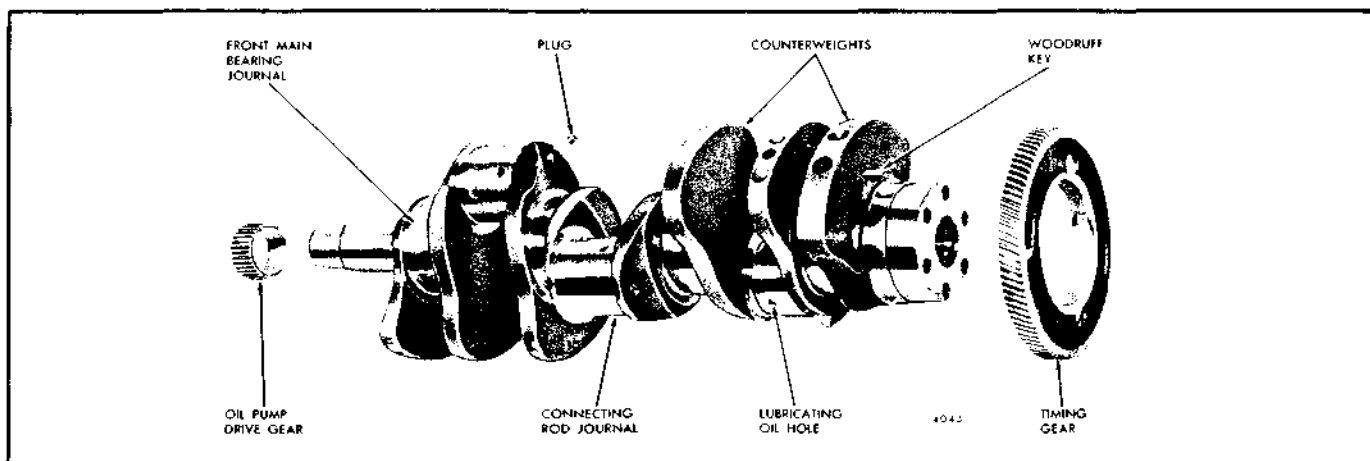

Fig. 2 - Crankshaft Details and Relative Location of Parts (6V-53 Engine Crankshaft Shown)
6. Thread the valve spring compressor J 7455 into one of the rocker shaft bolt holes in the cylinder head (Fig. 2).